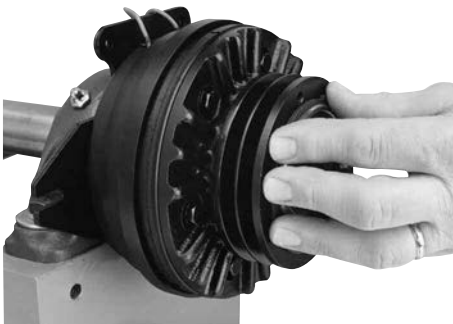

Figure 4
5. Place the ATT clutch onto its shaft, making sure it is properly positioned over the shaft key. (See Figure 4)